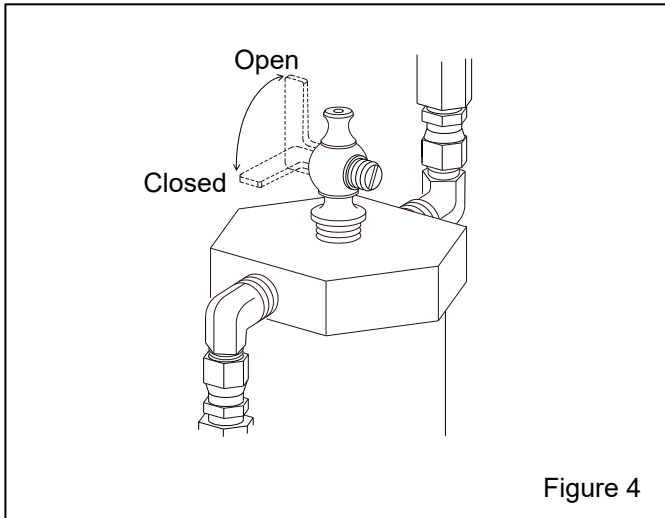

Figure 4
3.3.10 Make sure that the safety petcock located on the inlet valve is open. Open position is when the lever is in-line with the petcock, as shown in Figure 4.